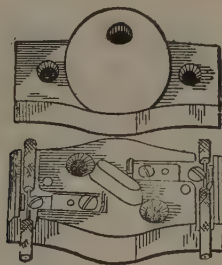

FIG. 859.—Receptacle suitable for use with open wiring, the requirement being that the contact ears should not be exposed.
**Ans.** One which does not have exposed contact ears, an approved form being shown in fig. 859.